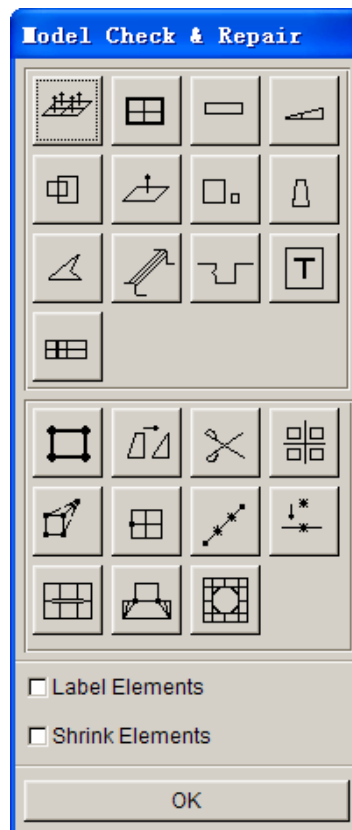

Figure 6.1.28 Model Check dialog box
2. Select OK to accept the selected elements and a dialog box as illustrated in Figure 6.1.28 is displayed. The user can select one of the following methods to fill the area: